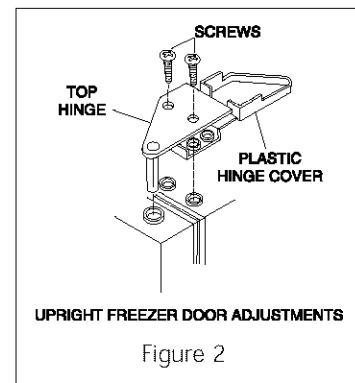

Figure 2
- At top of cabinet, lift up plastic hinge cover and fold back. (Figure 2)